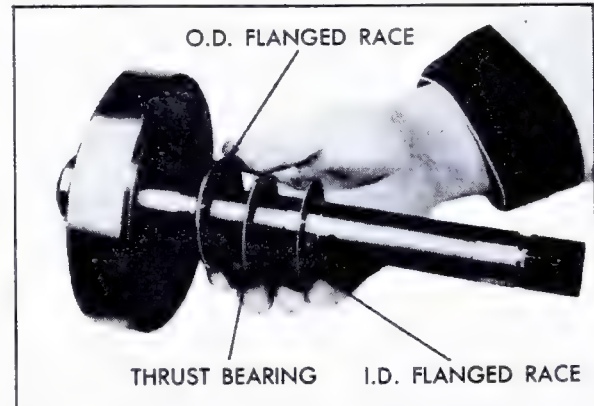

Fig. 7-182 Installing Races and Thrust Bearing on Inner Face of Rear Internal Gear
- Install large diameter race first, with flange facing up, Fig. 7-182.